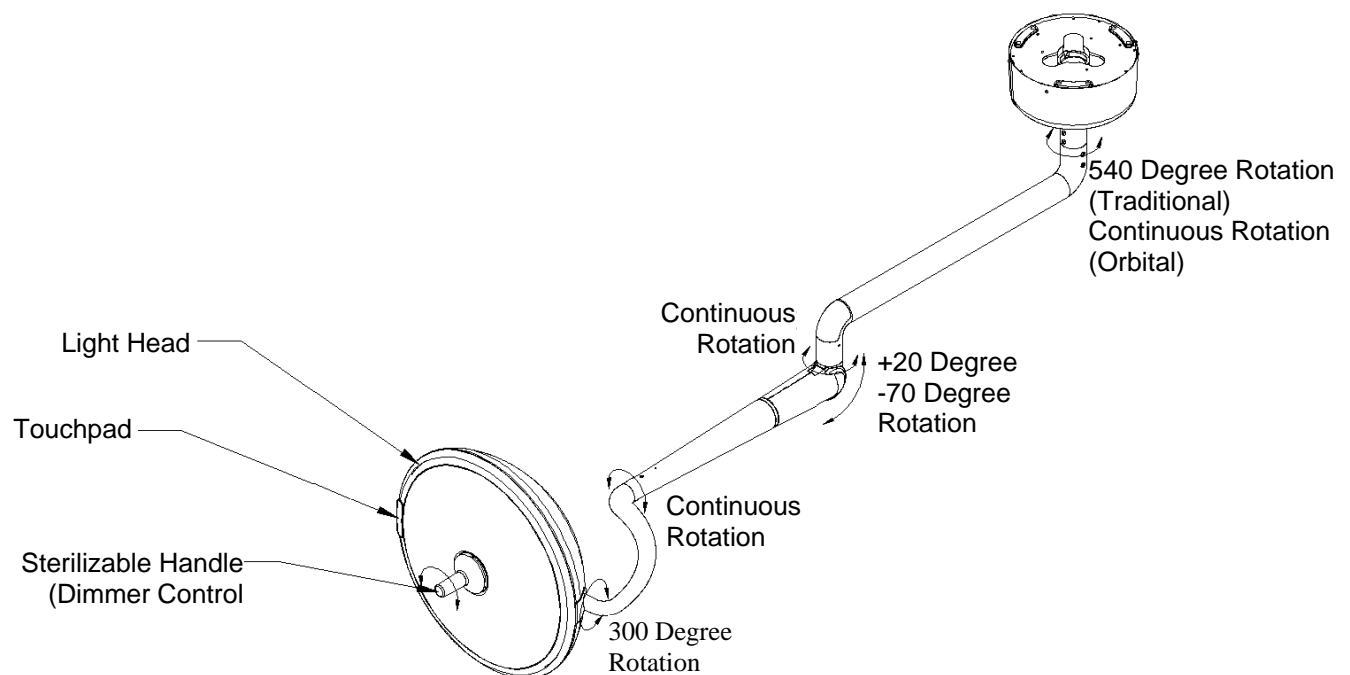

Figure 27 System One Head and Arm Movements
- To position the light head and arm, firmly grasp the sterilizable handle and move the light head or arm to the desired location. (See Figure 27 for arm and head movements).